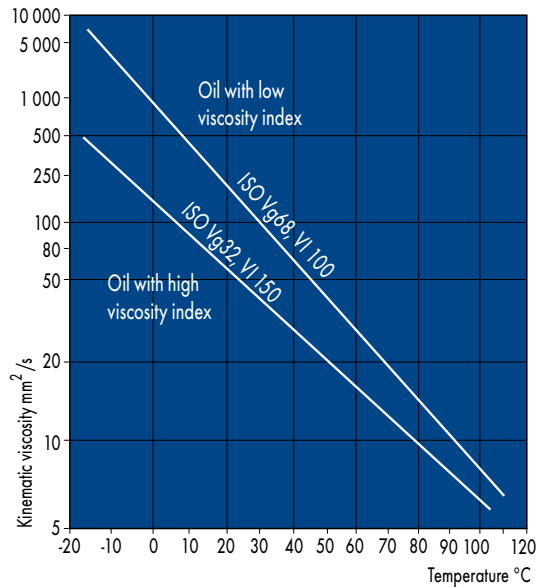

Fig. 21 Viscosity-temperature behaviour of various hydraulic oils
The viscosity of hydraulic oils depends on the pressure and the temperature. The viscosity increases significantly from a pressure of about 20 MPa (200 bar). The viscosity doubles at approximately 40 MPa (400 bar) depending on the nominal viscosity and the temperature. Under an increasing temperature the viscosity of oils decreases very rapidly. The characteristic value for this viscosity-temperature behaviour is the viscosity index (VI). The higher the viscosity index of a hydraulic oil the less the viscosity depends on the temperature (→ Fig. 21).